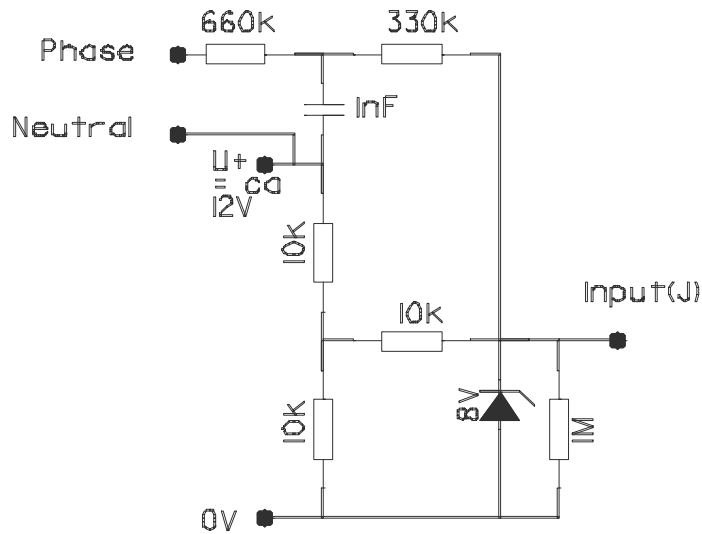
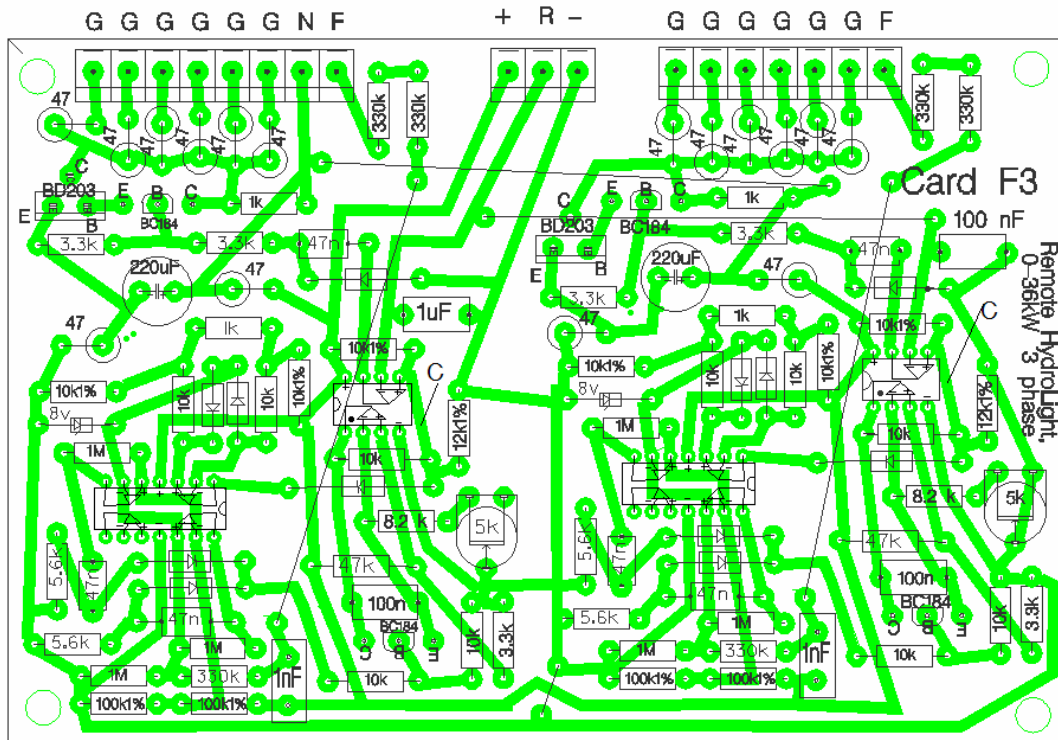
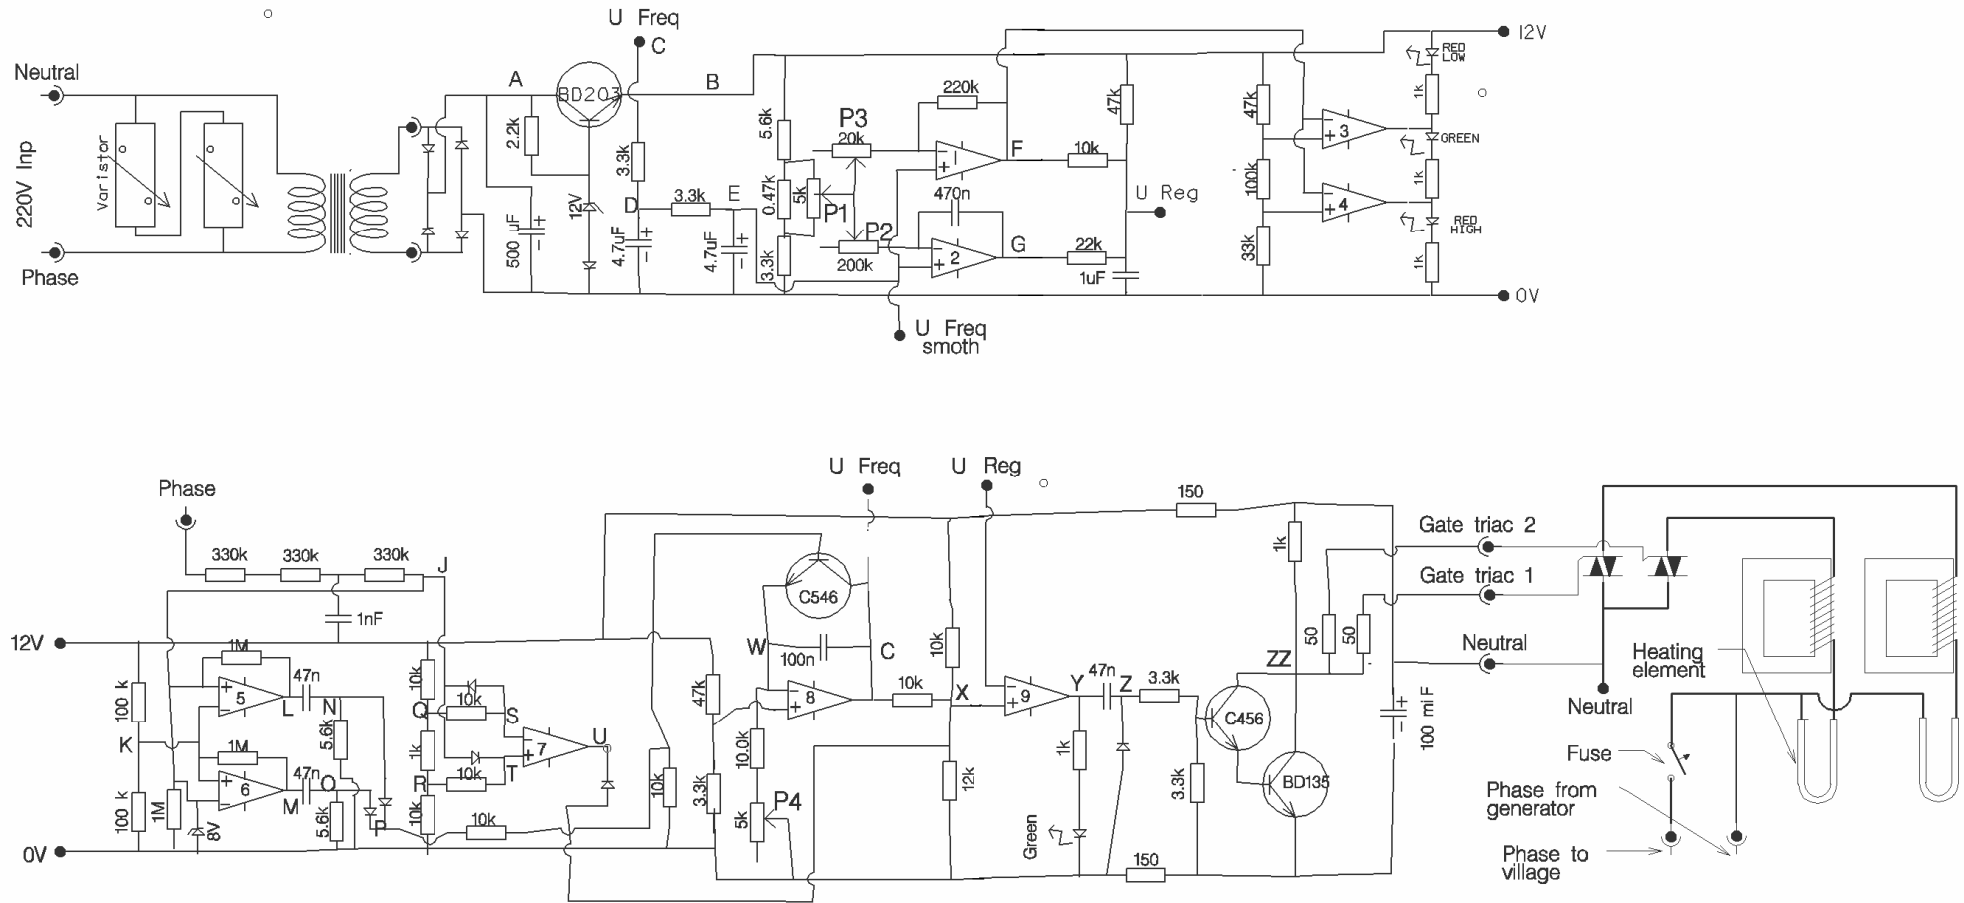
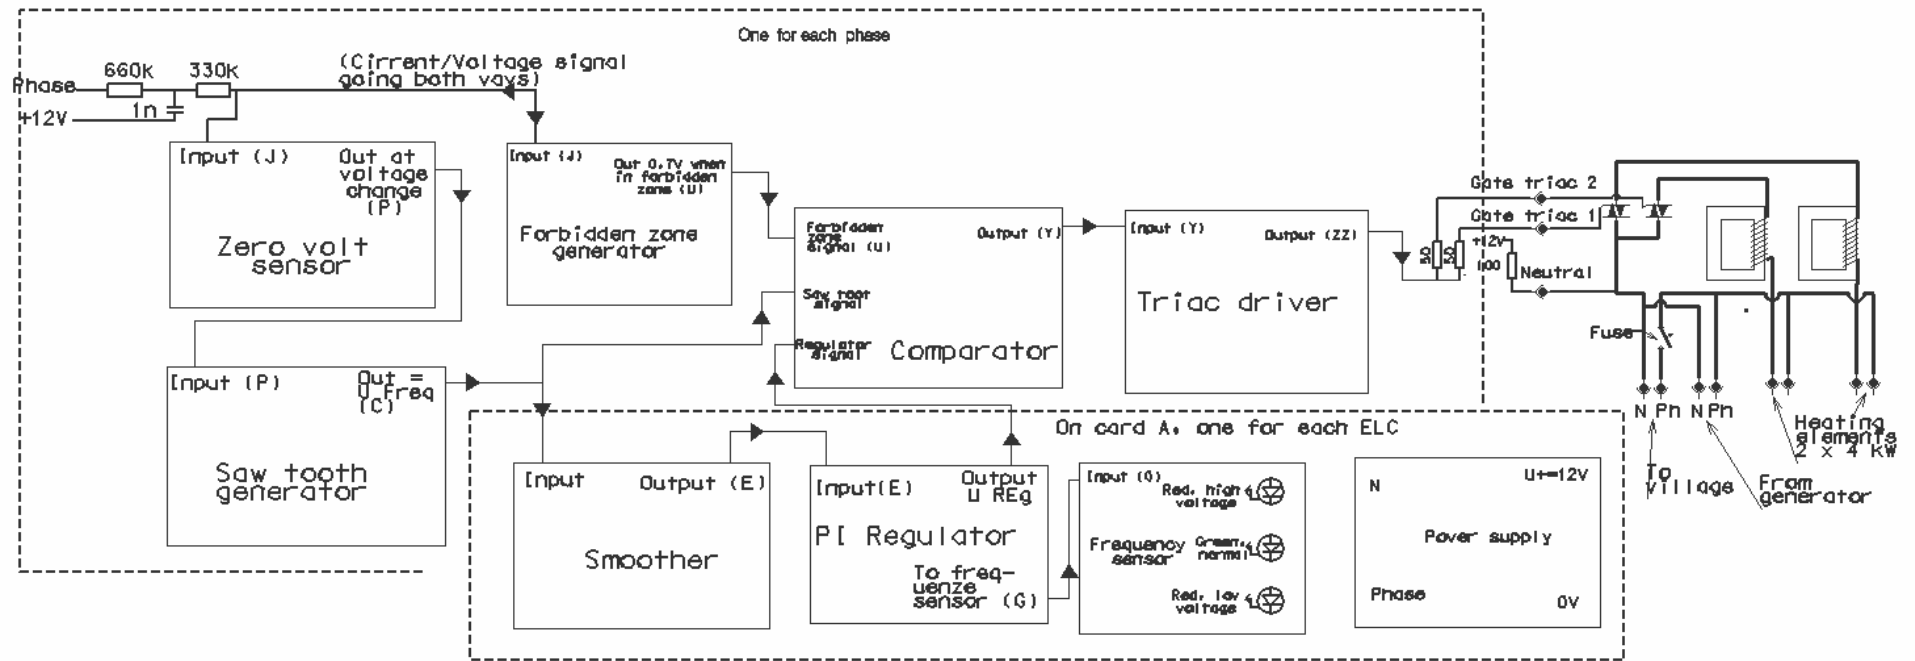

Figure 2 Simplified drawing of the components between the generator voltage and the input J.
Figure 20 Printed circuit board for phase 2 and 3. Must connect "+", "R" and "-" to card in Figure 19.
Figure 21 Circuit diagram. The lower part of the diagram is repeated for each phase.
Figure 22 Diagram for single phase ELC, 0 to 8 kW.
For a single phase system does one have one of the cards in Figure 19 and for a three phase system does one also have the card in Figure 20.
A circuit diagram of the different parts is shown in Figure 21 and a block diagram is shown in Figure 22. Figure 19 and Figure 20 shows the layout on the cards.
Figure 10 to Figure 16 shows the signal measured at the oscilloscope for some of the points A to ZZ in Figure 21. It is the picture taken from the screen on the oscilloscope and inverted to black and white. All the pictures have the 220V AC signal. On left side of the figures is the voltage shown and zero volt (0 220V) for the 220V signal.
The components between the input phase and neutral and the input point J in Figure 21 is shown simplified in Figure 2. It gives voltage  $U^+/2.0$  when phase voltage is zero volts, but delayed 0.2 ms because of the 1nF capacitor. The 8 V zener diode reduces the max voltage to 8 Volt. Without the zener diode, the input voltage to the OPAMP at point J can go above 12 V. The OPAMP (OPERation AMPLifier) LM324 that we use does only work when the input voltage is below  $U^+$ . Tests show that the output signal went down to zero volts when one of the inputs to the OPAMP was close to  $U^+$ . The signal at point J is shown in Figure 10 together with the input voltage from the alternator.
The zero volt sensor consist of OPAMP 5 and 6 in Figure 21. It takes the input signal from J and gives out a signal to P every time the alternator voltage changes sign. When the voltages go from positive to negative it give a signal 0.2 ms after the voltage reaches  $\pm 20V$ . When it goes from positive to negative it gives a signal 0.2 ms after the voltage reaches 20V. The 1 M $\Omega$  resistors gives a positive feed back that makes the change when the voltage becomes  $\pm 20V$  or + 20V. OPAMP 6 gives opposite signal than OPAMP 5. When one of OPAMP 5 or 6 changes value one get a signal at output P. Figure 11 shows the signal at P. Without the 1nF capacitor and the 1 M $\Omega$  resistors an output signal at P would occur when the triacs switches on and the phase voltages goes down to zero.
The saw toot generator (Figure 22) consist of OPAMP 8 in Figure 21. An input signal at P resets the saw toot generator and is shown in Figure 11.
The forbidden zone generator consists of OPAMP 7 in Figure 21 with the components surrounding it. The output is low when input voltage is between  $\pm 78$  and + 78 V but delayed 0.2 ms.
The smoother in Figure 22 takes the signal from the Saw tooth generator at C and smoothes it to get the average value. The average value reduces with frequency and then gives the frequency. The smoothing is done by three capacitors, two 4.7  $\mu$ F and one 1  $\mu$ F after the PI regulator. The value of the capacitors is chosen to get a fast response and reduce as much of the AC part of the voltage that is necessary. If potentiometer P2 is in center position the AC part is 0.02V at output E and 0.06V at  $\delta$ U Regö in Figure 21..
The regulator consists of OPAMPs 1 and 2 that makes an PI (Proportional Integral) regulator. OPAMP 1 is the proportional part and OPAMP 2 is the integral part. They are connected to the 10 kohm and 22 kohm resistors and compared with the saw tooth generator. The load is a function of output from the proportional part and the integral part is shown in Figure 3. The integral part of the regulator can be slow, so we want the load to be able to turn off when the voltage suddenly decreases or to turn on when the voltage suddenly increases. After a long time the integral part of the regulator will set the voltage at a given level independent of the load. The output of the proportional voltage (Point P in Figure 21) then becomes 4.6 V (if  $U^+ = 12V$ ) when the system is stable.
- 3: Eventually adjust P4 for the two other phases so the voltage at point C in Figure 19, Figure 20 and Figure 21 become the same for all three phases.
A rough frequency measurement is put on the control; it is assumed the voltage increase with frequency. It consist of OPAMP 3 and 4 in Figure 21 and 3 light diodes. One light diode turns on at high voltage, one at low voltage and one at normal voltage. The signal is fed from the proportional regulator, and the voltage deviation before one of the diodes lights depend on the setting of the proportional potentiometer P3.
The signal from the saw tooth generator at point C in Figure 13 then goes through some resistors and fed with the signal from the forbidden zone generator at point U to point X in Figure 21. The signal at point X is shown in Figure 14. That signal is compared
$U^+$ : Voltage from power supply at point B in Figure 21.
Figure 19 Printed circuit boards for single phase. Connections: “G”: Gate, “F”: Phase, “12”: 14 V AC, “+” and “-”: Power supply to card in Figure 20. “R”: Output regulator.